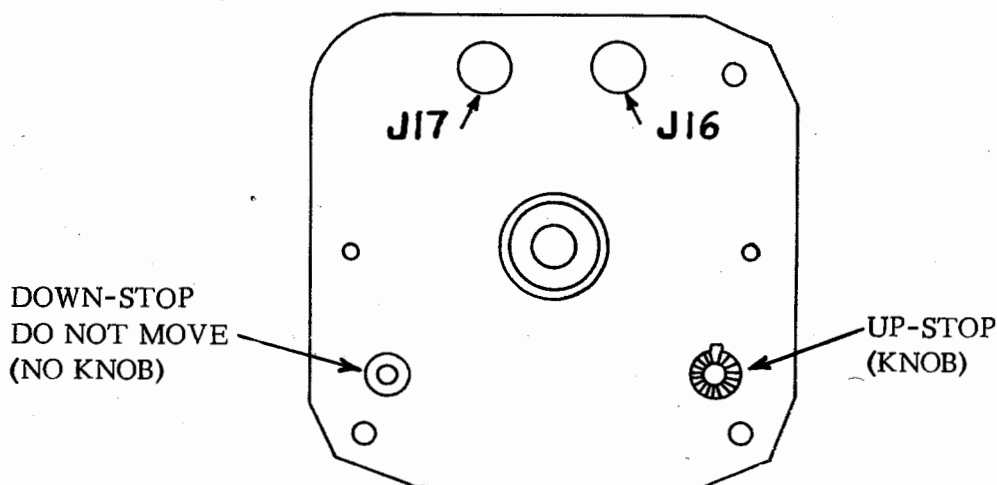

Figure 1. Altitude Selector
4. Install CD-10 cable in ALTITUDE SELECTOR receptacle J-16. (See figure 1.)
12. Install CD-10 cable in Altitude Selector receptacle J-17. (See Figure 1.)